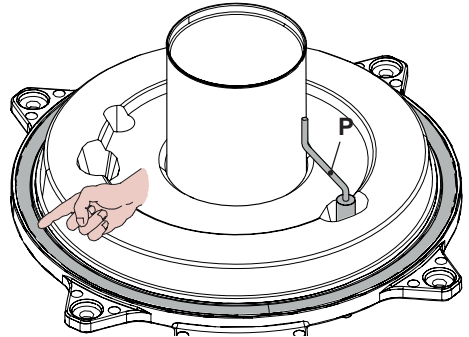

Figure 9.7
- The silicon gasket on the front panel of the combustion chamber Figure 9.7 must be changed if worn.
- The ignition/detection electrode P in Figure 9.7 also serves as a sensor for correctly draining the condensate. If this electrode comes into contact with the condensate water in the combustion chamber, the boiler goes into safety lock-out. Replace the insulation where wet or worn.